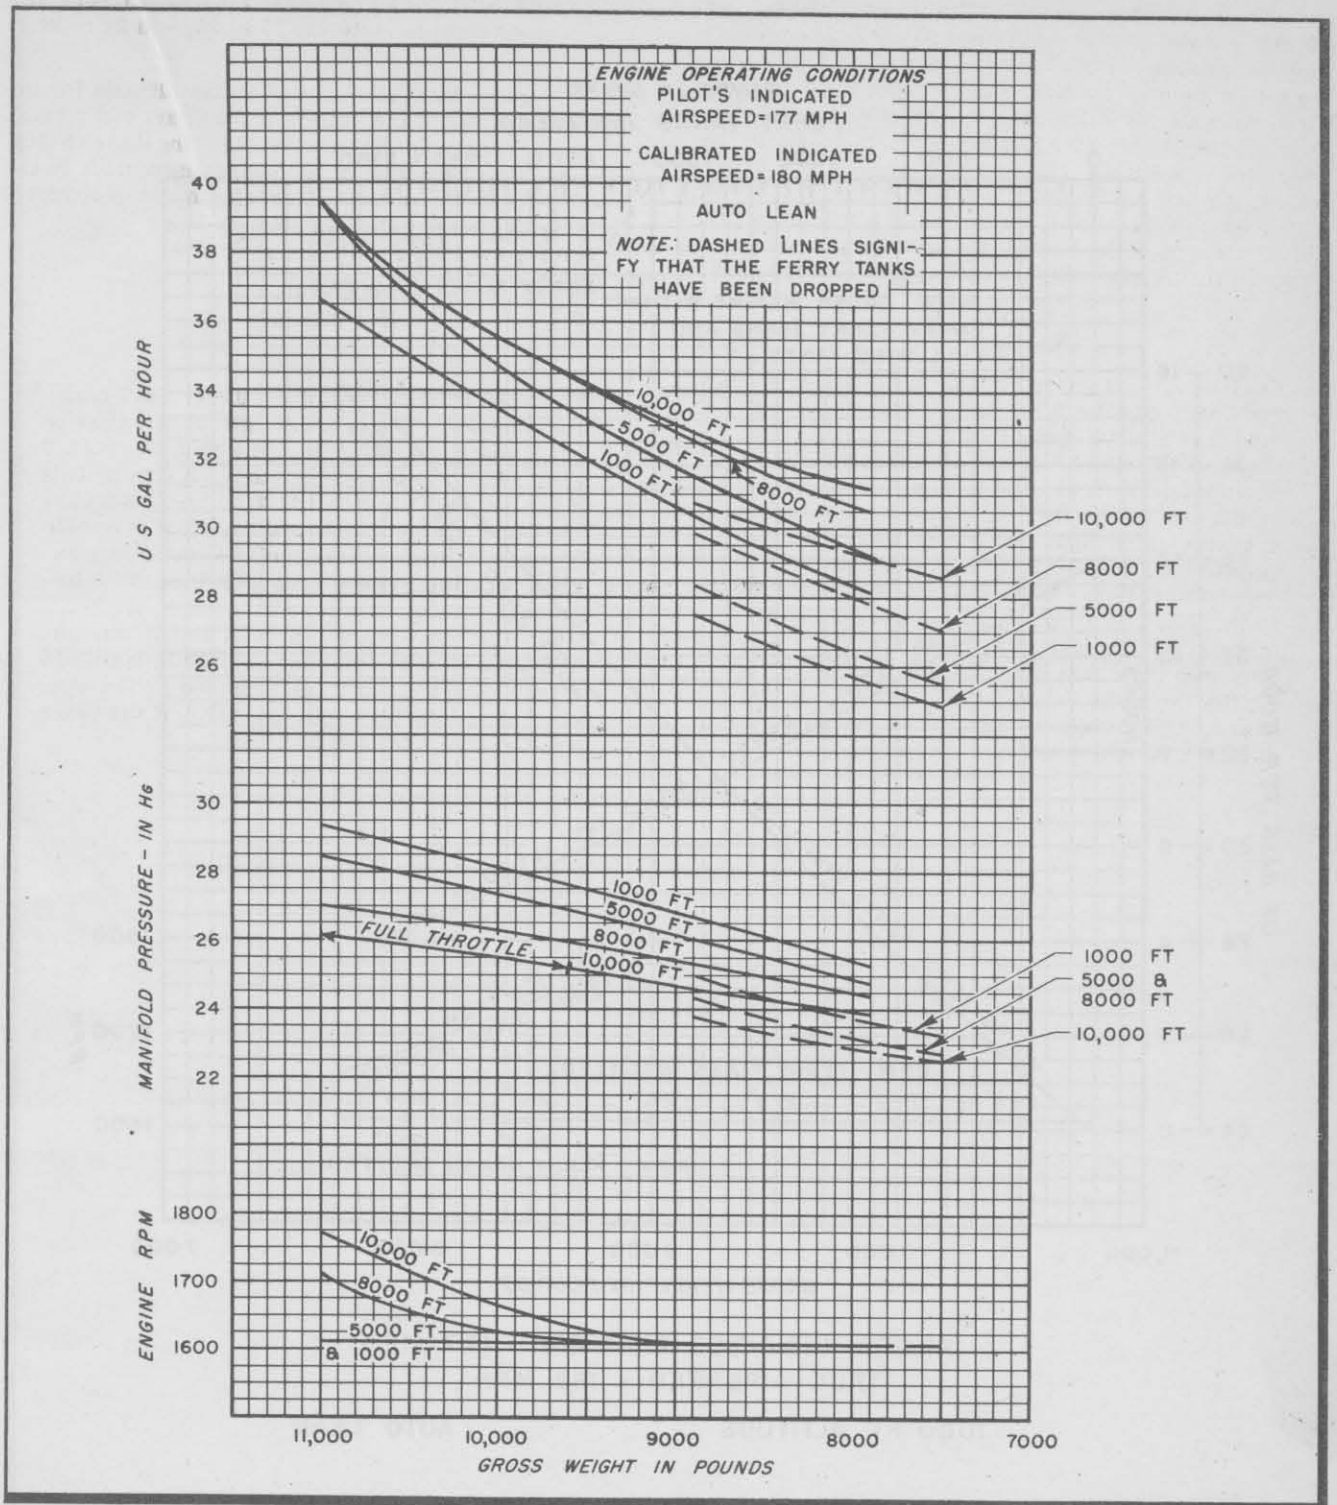

Figure 17 - Long-Range Cruising Chart - All Altitudes
(2) These charts have been calculated for the airplane without the special winterization equipment, which includes wing and tail de-icer shoes and special anti-icer fluid tanks. If the de-icer equipment is installed, the range data must be corrected.
(3) Each chart shows operating conditions with the ferrying tanks installed, as indicated by solid lines, and with the ferrying tanks dropped when empty, as indicated by dashed lines. Note that the maximum range, with tanks carried all the way, is not more than 130 miles shorter than when the tanks are dropped when emptied; thus, in most cases, it will not be necessary to drop the tanks. However, when the tanks are to be dropped, it is necessary to refer to the dashed lines. The gross weight of the airplane will be 9000 pounds when the ferrying tanks are empty, and after the tanks have been dropped, the gross weight will be 8790 pounds. Thus it will be necessary to first refer to the solid lines until the tanks are empty; then, when the tanks have been dropped, refer to the dashed lines to obtain the correct data.
b. CRUISING CHARTS - VARIOUS ALTITUDES. (See figures 17, 22, and 27.)
(1) To obtain engine operating conditions for any gross weight, project vertically up to the groups of curves and read the engine operating conditions at the desired flight altitude.
EXAMPLE (See figure 17.)
(See figure 17.)